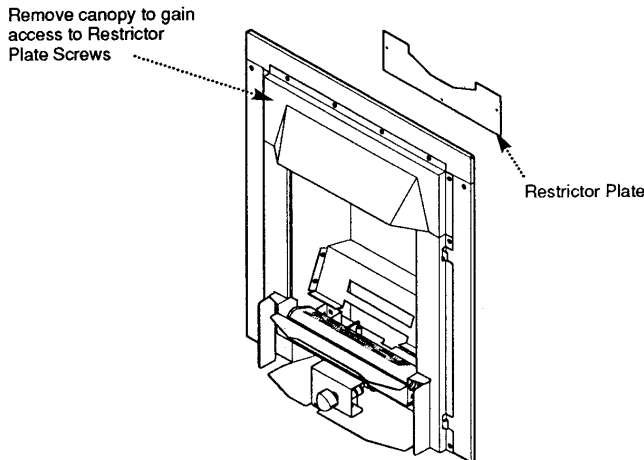

Fig. 5
3. The restrictor plate must be removed from the appliance (Fig. 5). Remove the fire canopy to gain access to restrictor plate screws. Remove the restrictor and replace the canopy taking care not to damage any painted surfaces.
2. Remove the restrictor plate from the fire before fitting to this type of flue (Fig. 5).